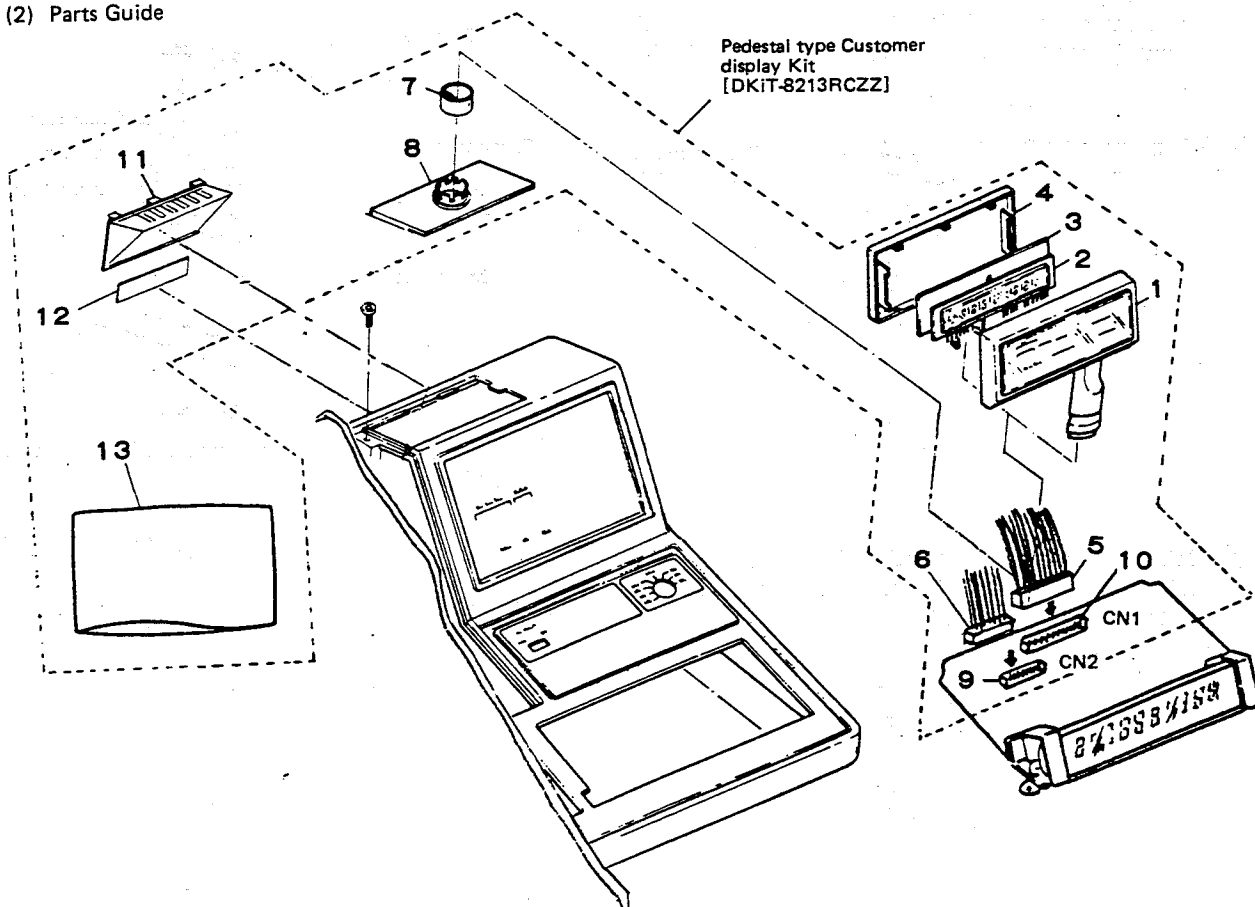

Fig. 18-16
- ③ Mount the fixing cover on the top cabinet, repeat the procedure of par. 3-1 ~ 3-2 reversely.
- ④ Secure the fixing cover by using the screw which was used for securing the top cover.
- ⑤ Mount the rear cover and SHARP badge as shown in Fig. 18-16.